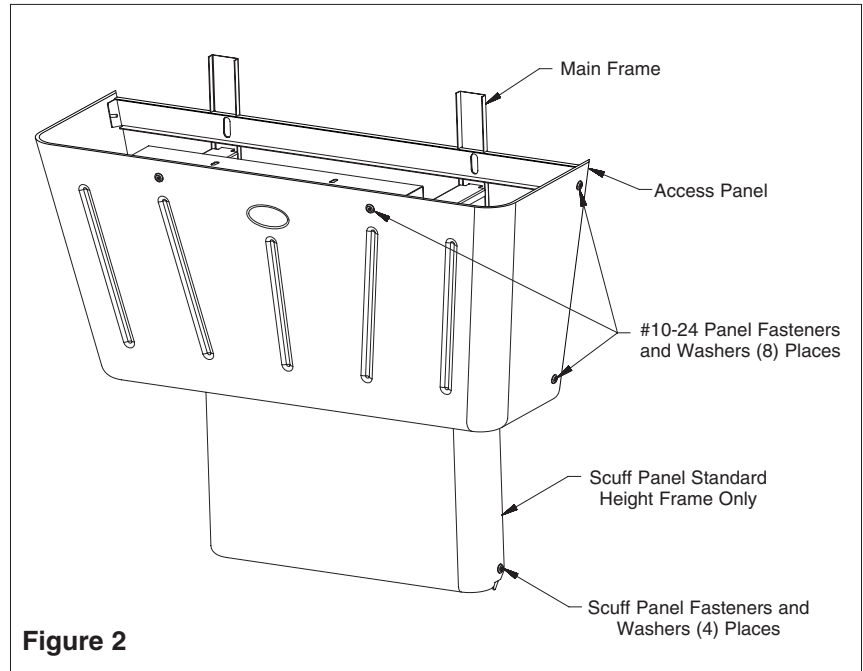

Figure 2
1. Using a T20 Torx key, remove the eight #10-24 flat head Torx screws and #10 finish washers securing the access panel to the main frame, and remove the panel (see Figure 2).
3. After testing is complete, reinstall panel to frame. Fasten panel with eight Torx-head screws provided (see Figure 2 on page 6).